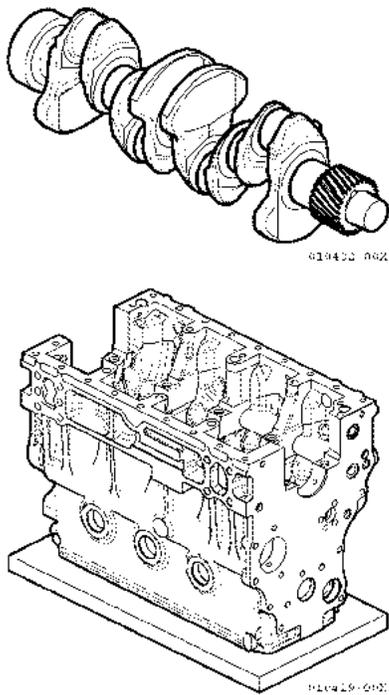

Figure 5-55
52. Remove the crankshaft (Figure 5-55).